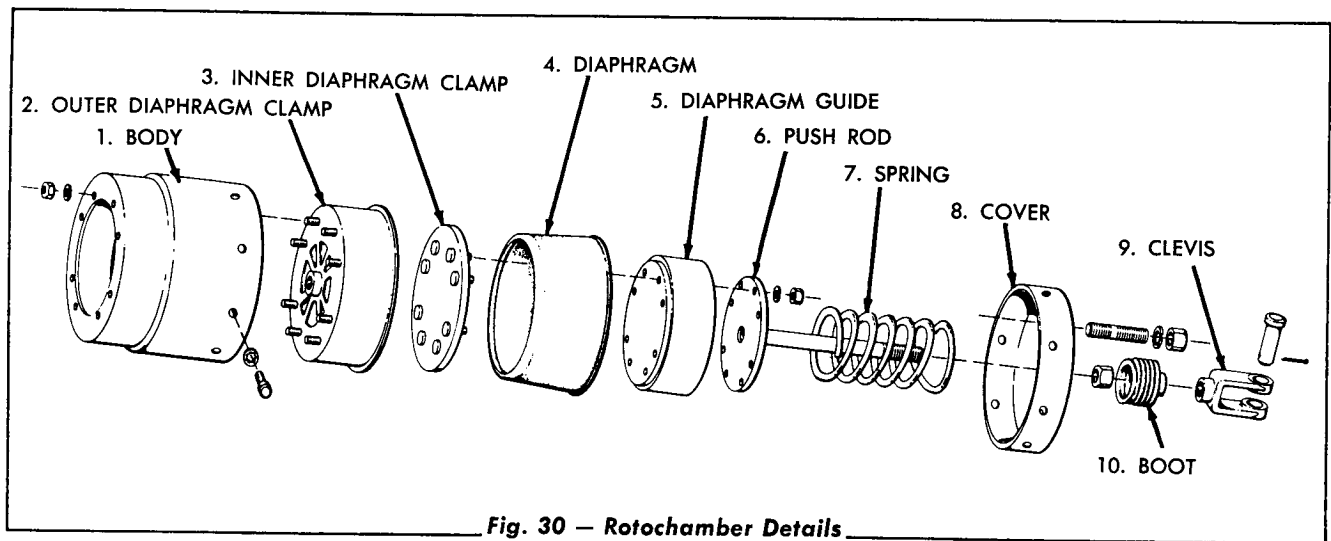

Fig. 30 — Rotochamber Details
1. Loosen the clevis locknut (Figs. 30 and 31) and turn the push rod clevis off of the push rod.
2. Using a new diaphragm and rubber boot (Figs. 30 and 31), assemble the rotochamber in reverse order of the assembly procedures above.